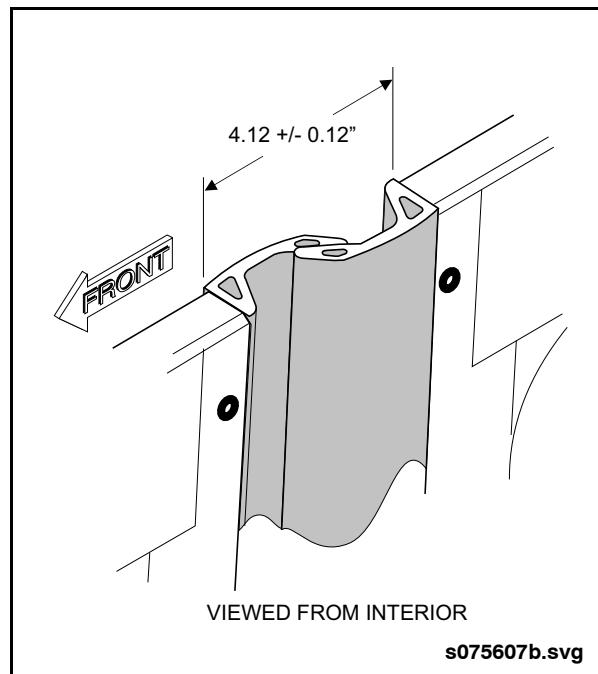

Fig. 16-4: Door Closure Adjustment
2. With the doors in this position the metal-to-metal door panel leading edge gap should be a minimum of 4.00". See “Fig. 16-4: Door Closure Adjustment” on page 9.